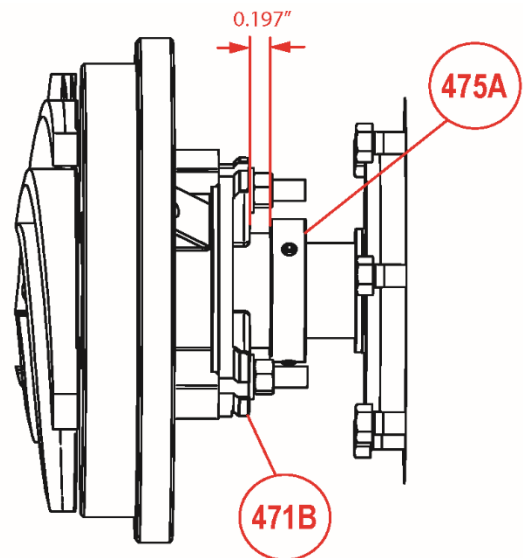

Figure 10-11: Thrust ring position
11. When the Wet-End is fully assembled, place the thrust ring (475A) at the correct position on the shaft and secure with set screw (904A). The distance between the face of the cover plate and the shoulder of the thrust ring must be 0.197" Figure 10-11.